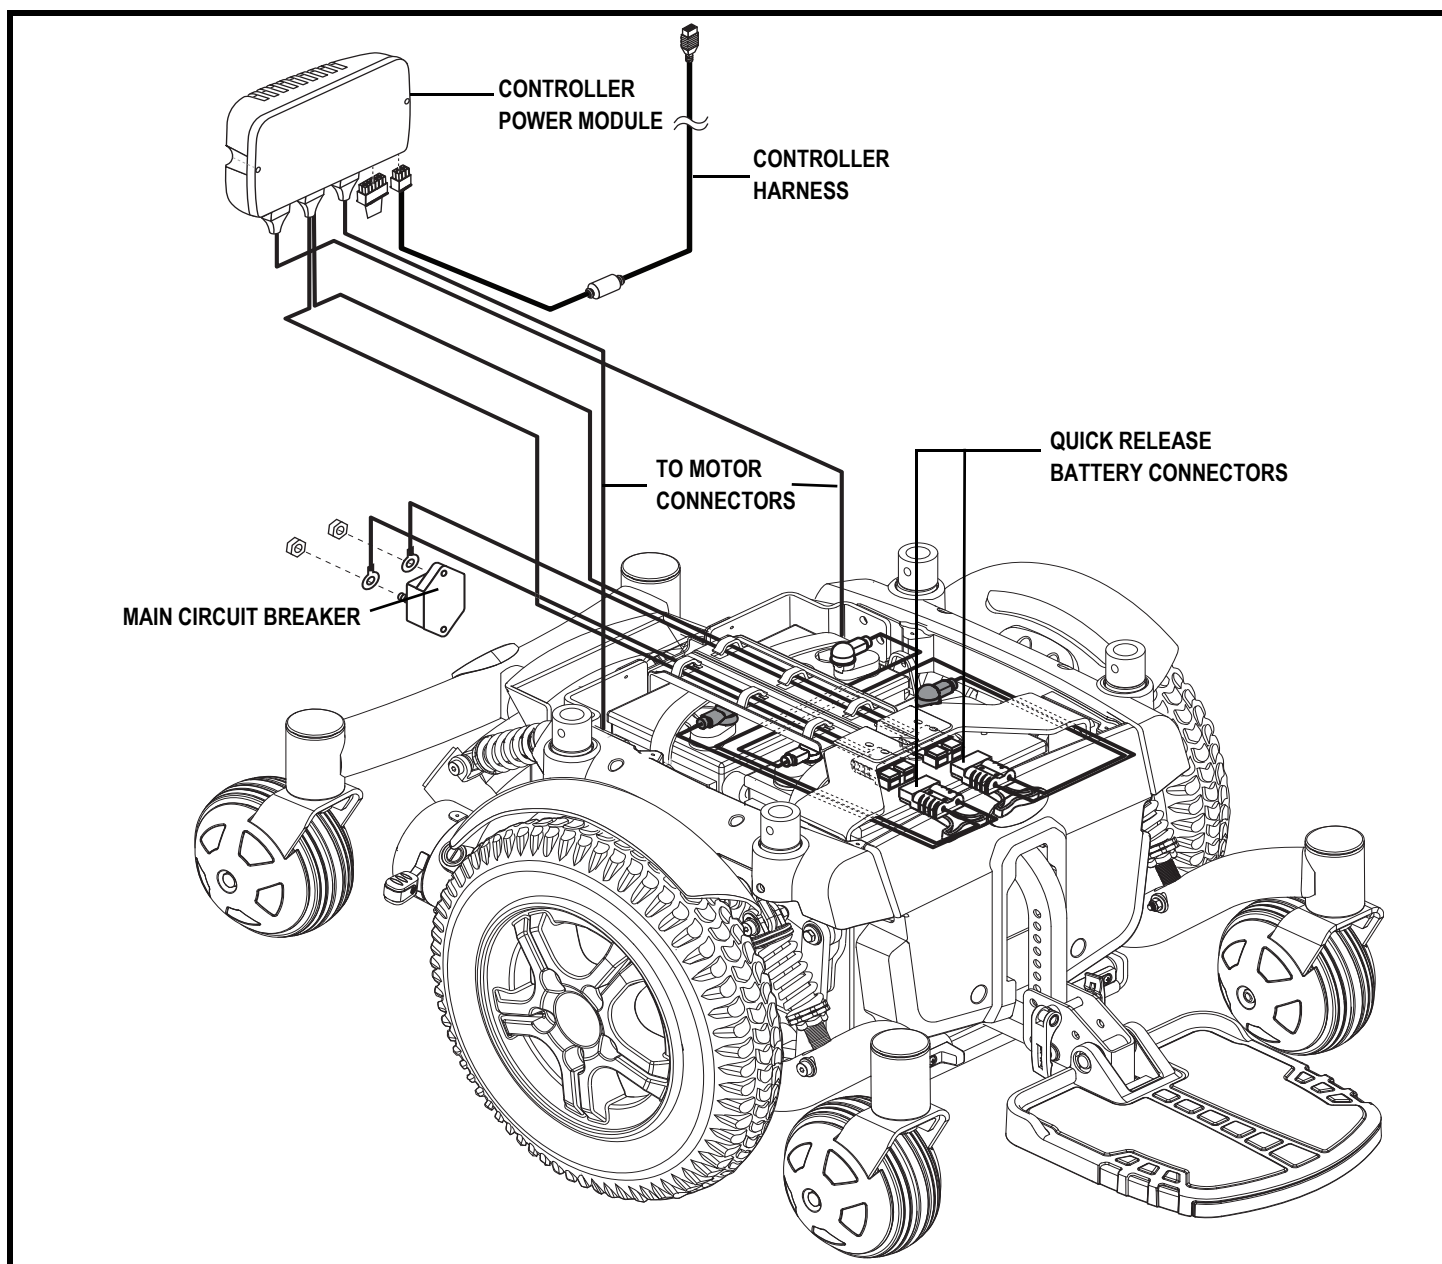

Figure 7. Quantum 6000Z Series Electrical Components
The electrical components consist of the controller assembly, the batteries, and the motors. The batteries, motors, and controller power module (if equipped) are located on the power base assembly. The controller is located on the seat assembly. Connectivity between the controller and the motors, batteries, and the battery charger is provided by one or more wiring harnesses. **See figure 7.**
6. Plug the controller connector into the power base. See figure 7.
4. Disconnect the controller connector(s) from the power base. **See figure 7.**